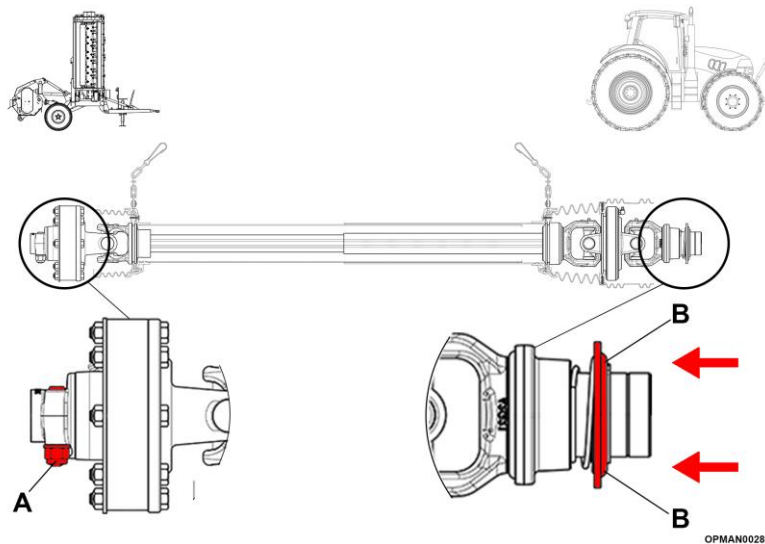

Figure 4.10 – Trident Input Shaft Fitting & Removal
- 4.5.1.1 Proceed to remove the taper pin, flat washer and nut from the machine end of the input PTO shaft. See Figure 4.10 (A).